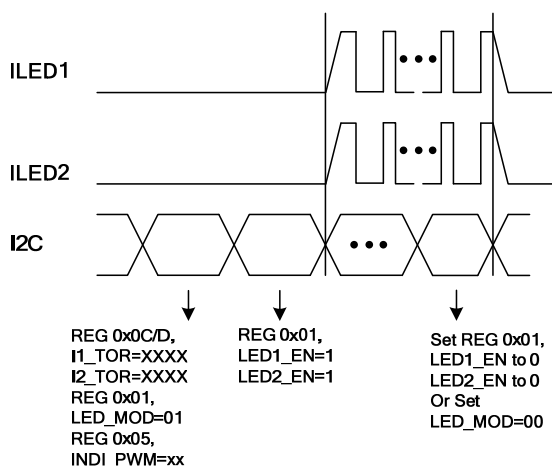

Figure 4: Indicator Mode
When LED_MOD is set to 01 and LED_EN1/2 is set to 1, the MP3336 enters indicator mode, which provides a low-current output (see Figure 4). In this mode, the driver current sources work in a 31.5kHz PWM dimming mode. The current amplitude can be set by I1_TOR and I2_TOR, while the indicator current step ramps up more quickly at a rate of 7.84mA/step, compared to torch mode's ramp-up rate of 1.25mA/step. The final amplitude in this mode can be calculated with Equation (1):